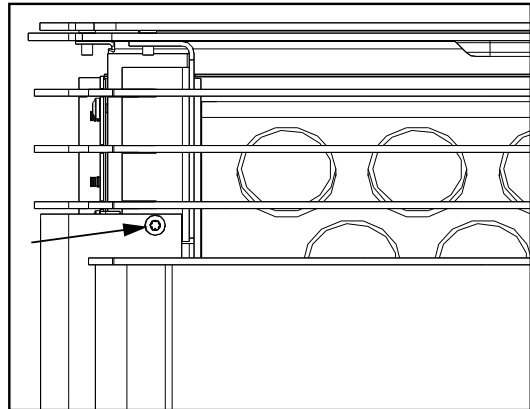
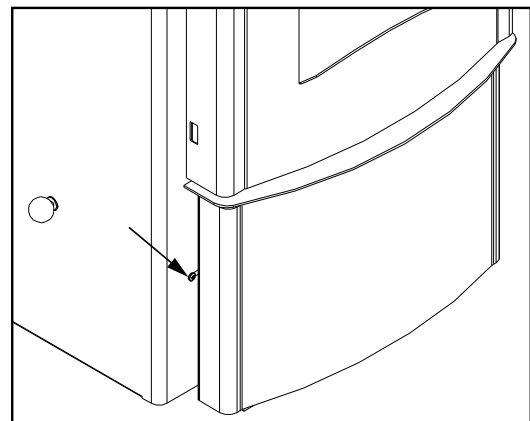
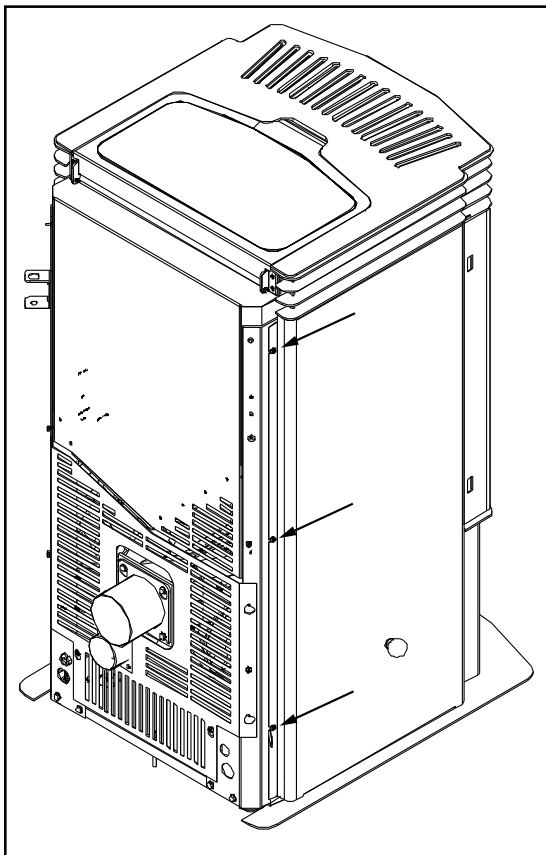

Figure 29: Screws above door top corner.
Figure 30: Screw behind ash box.
Figure 31: Screws at back of the cab side.
1. Remove the screws above the door on both sides (Figure 29).
2. Ensure the screws behind the ash box, one on each side (Figure 30) and the three (3) on each side at the back (Figure 31) are loosened.
3. Slide the three (3) slots at the back of the cab panels under the three (3) screws at the back.
2. Remove both cab panels. Remove the screws above the door on both sides (Figure 29) and ensure the screws behind the ash box, one on each side (Figure 30) and the three (3) on each panels at the back (Figure 31) are loosened. Slide the front of the cab panels out then slide the back of the cab panels out from under the three (3) screws at the back (Figure 31). Note: The slider knob will need to be removed if installed.